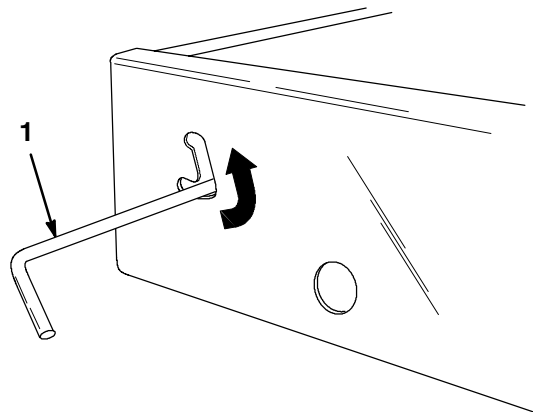

Figure 9
1. Slide latch upward toward top of cutout in bed frame (Fig. 9).